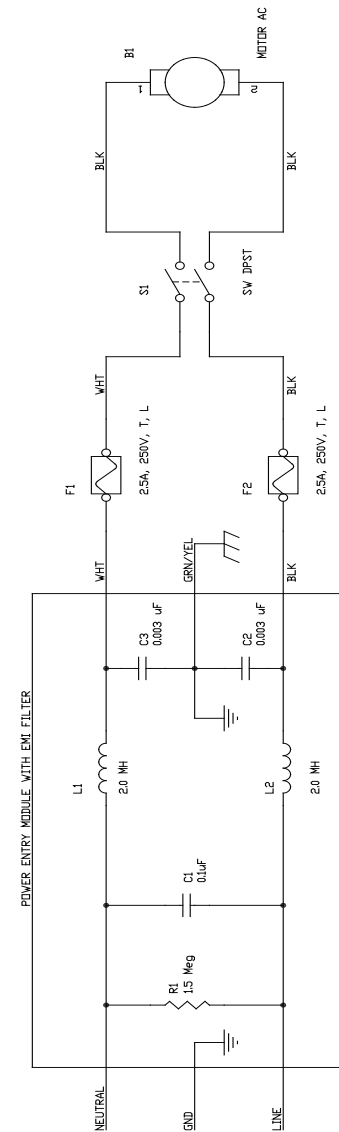

Figure 1 - Electrical Schematic
8.0 Troubleshooting [refer to figure 1]